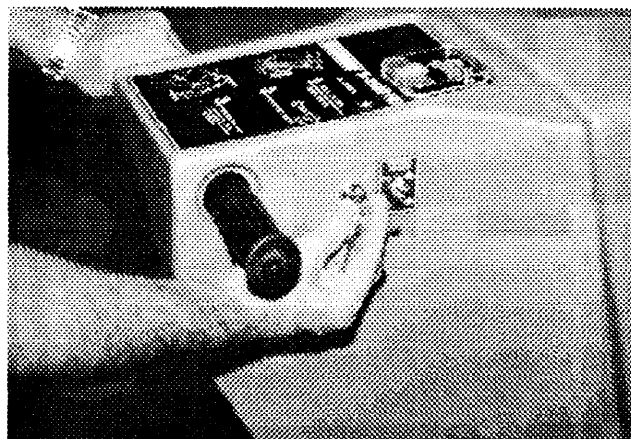

FIG. 4.
1. Turn the key switch to the "ON" position (Figure 4). The key ON light on the panel will light green.